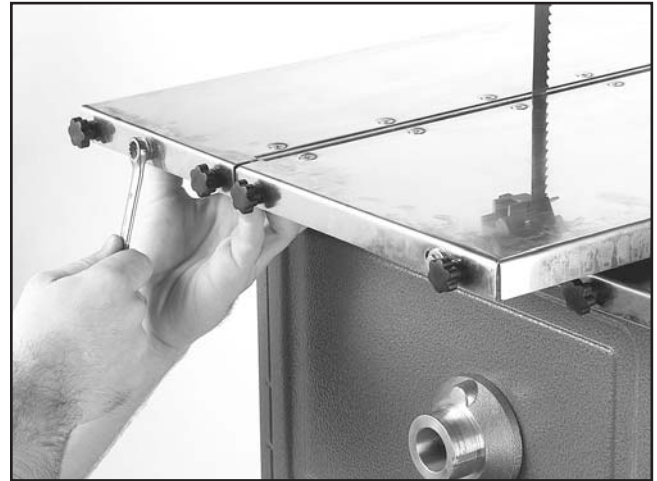

Figure 23. Securing rails in the sliding table.
4. Secure the rails to the end of the table using the knob screws as shown in **Figure 23**.